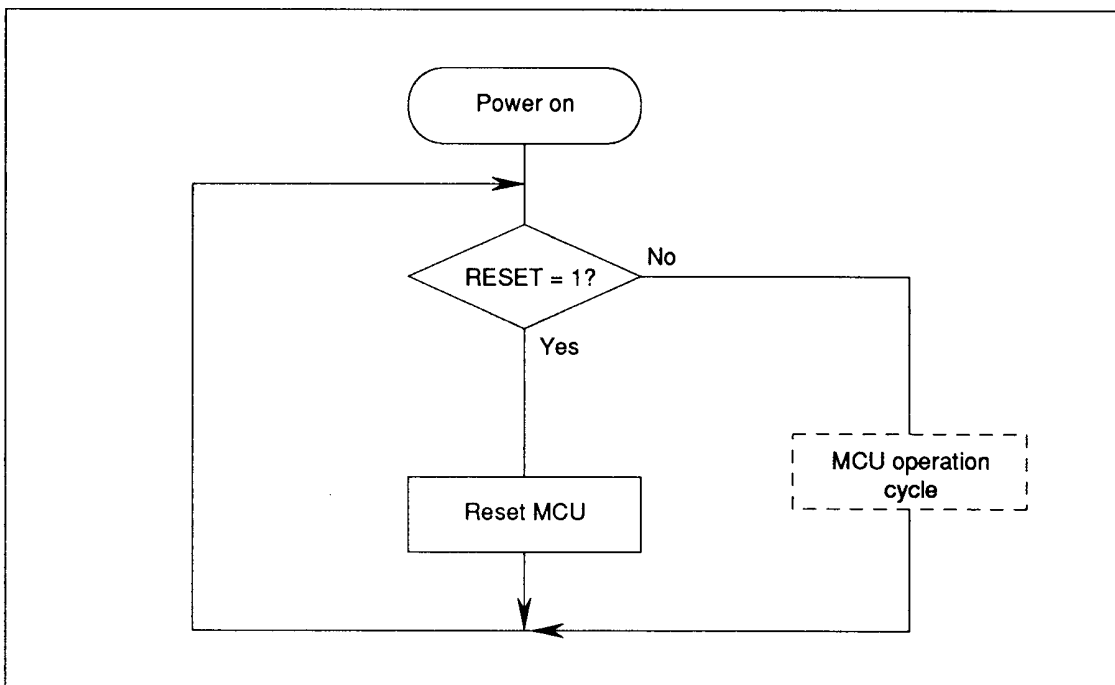

Figure 15 MCU Operating Sequence (power on)
**MCU Operation Sequence:** The MCU operates in the sequence shown in figures 15 to 17. It is reset by an asynchronous RESET input, regardless of its state.